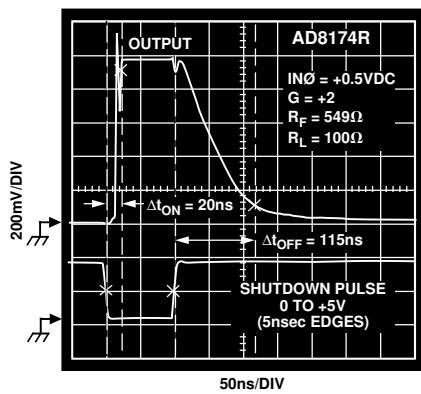

Figure 6. Shutdown Switching Characteristics
3AD8174 only.  $\overline{\text{ENABLE}}$  pin is grounded. Shutdown (SD) pin is driven with 0 V to +5 V pulse (5 ns rise and fall times). State of A0 and A1 logic inputs determines which channel is activated (i.e., if A0 = Logic 1 and A1 = Logic 0, then IN1 input is selected). Set IN0 (or IN2) = +0.5 V dc, IN1 (or IN3) = -0.5 V dc, and measure transition time from 50% of SD pulse (+2.5 V) to 90% of the total output voltage change. In Figure 6, ΔtOFF is the shutdown assert time, ΔtON is the shutdown release time.